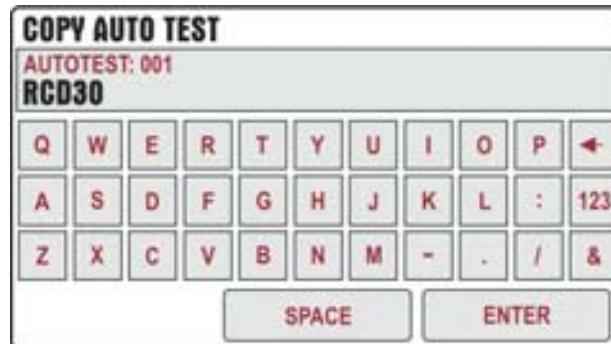

Fig. 23 : AUTOTEST Menu – Copy an Autotest
13. Select an Autotest and touch the **COPY** key (see Fig. 23). The following screen is shown on the display